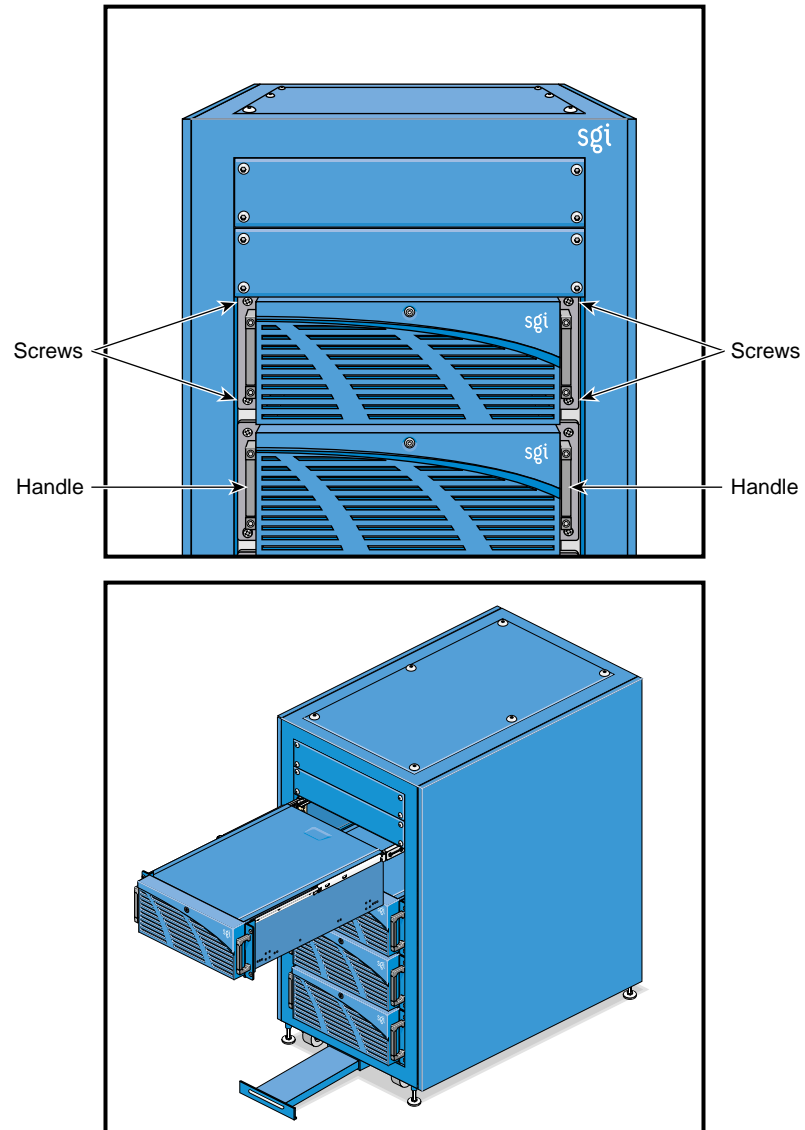

Figure 4-6 Freeing a Node from a Rack
8. To free the node from the rack chassis so that it can be pulled out, remove the two screws at each side of the node. These screws are above and below each handle; see Figure 4-6. Retain the screws.